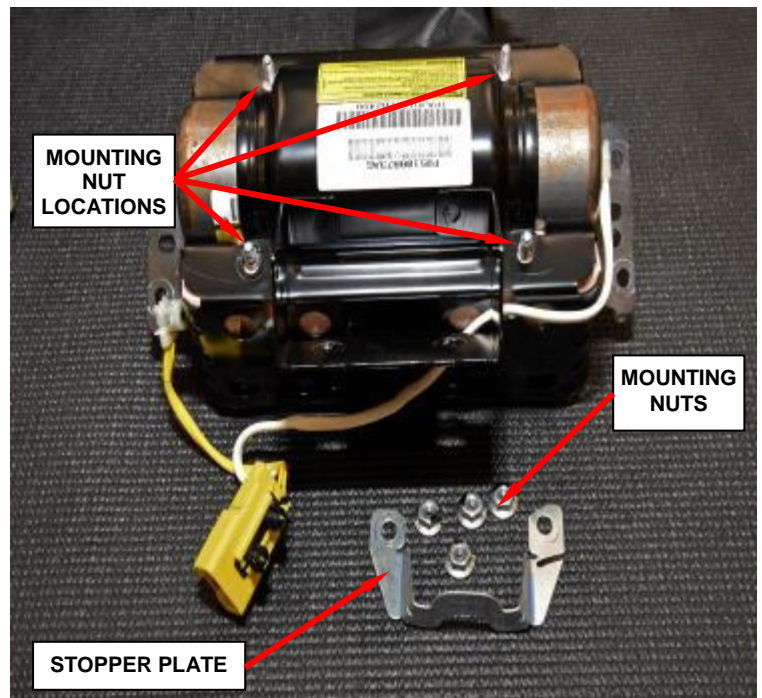

Figure 81 – Mounting Nuts and Stopper Plate
- e. Remove and **discard** the four inflator mounting nuts (Figure 81).